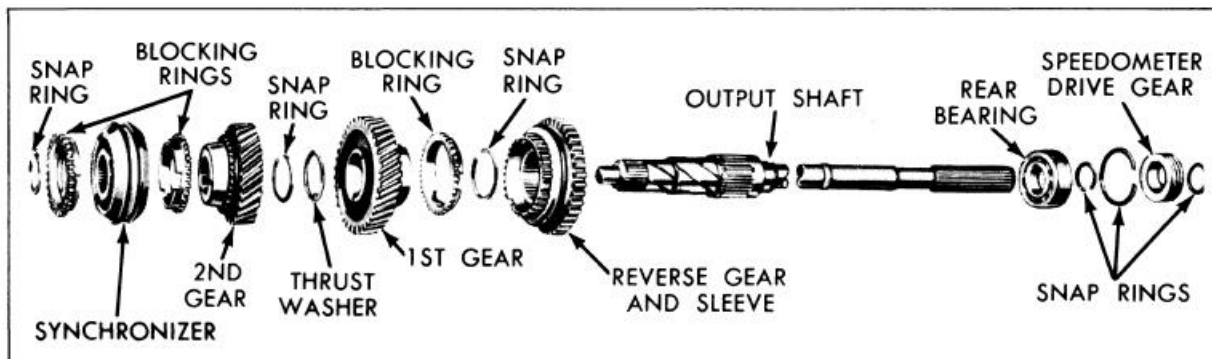

Figure 4-13—Exploded View of Mainshaft
a. Disassembly (See Figure 4-13)